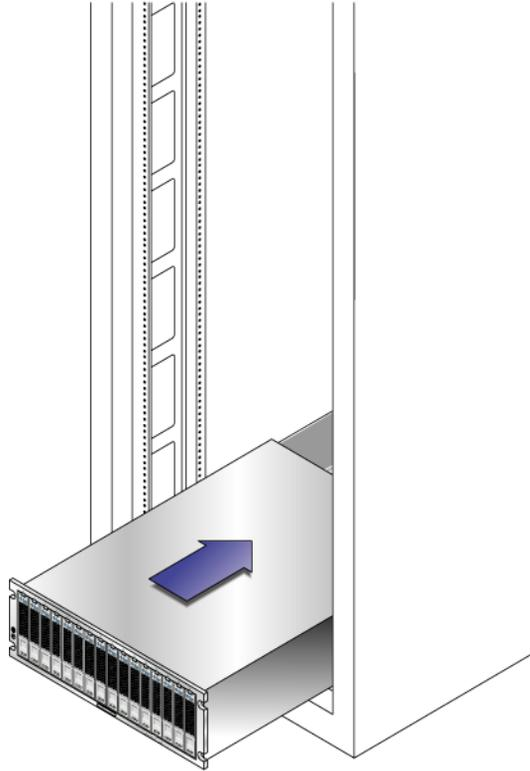

FIGURE 2-9 Sliding the Unit Into the Cabinet
2. Slide the unit carefully into the cabinet until the front flanges of the unit touch the vertical face of the cabinet (FIGURE 2-9).